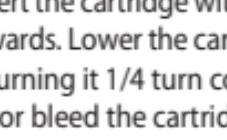

Fig. 3
- e) For each application, place a new mixing tip on the cartridge/syringe. Push the tip completely down until the notch of the mixing tip is aligned with the notch on the housing of the cartridge/syringe. Secure the mixing tip in place by gripping the coloured base, and not the mixing tip, and by turning it 1/4 turn clockwise (Fig. 3). As MultiCore Flow will cure in the used mixing tip, it may serve as a seal for the contents of the cartridge/syringe until needed once again (replace with a new tip just before the next use).